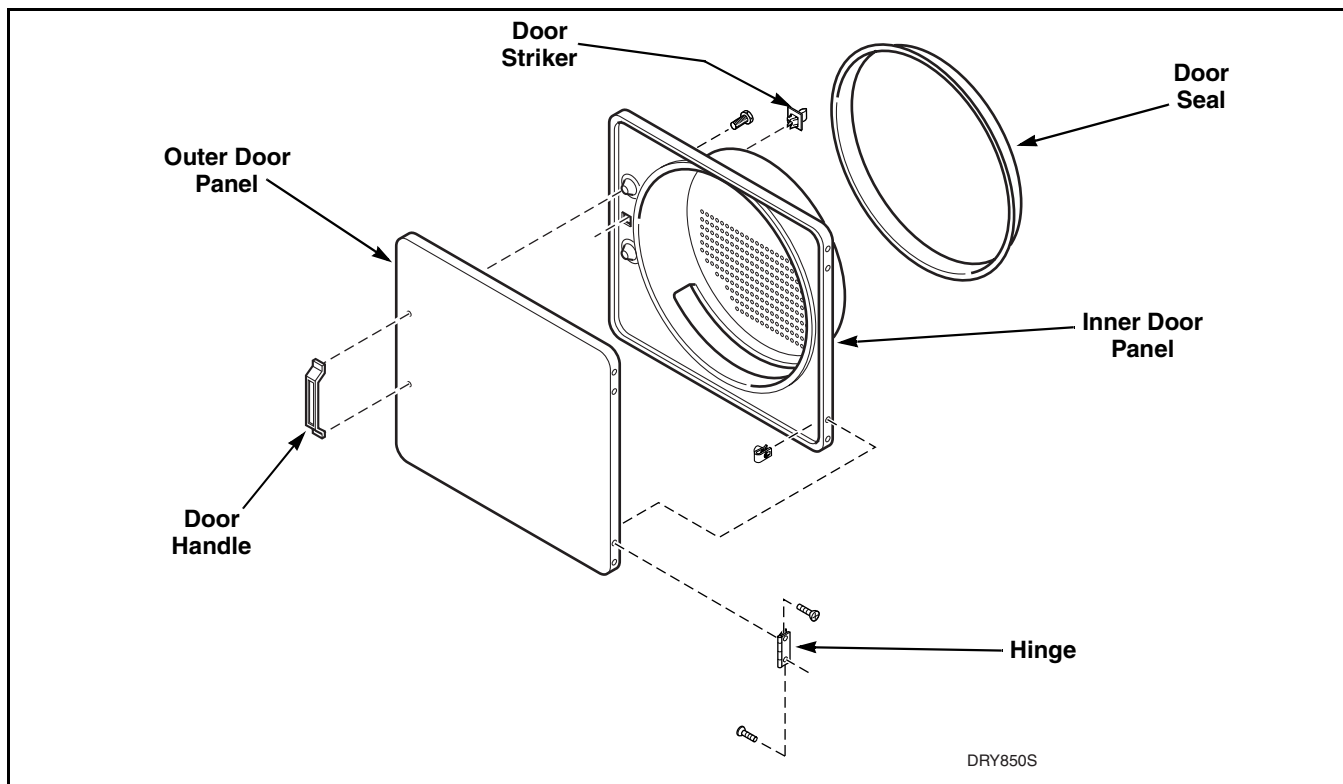

Figure 12
Refer to *Figure 12*
- b. Spread door panels just far enough to depress tabs on top and bottom of striker and push out of inner door panel. Refer to *Figure 12*.